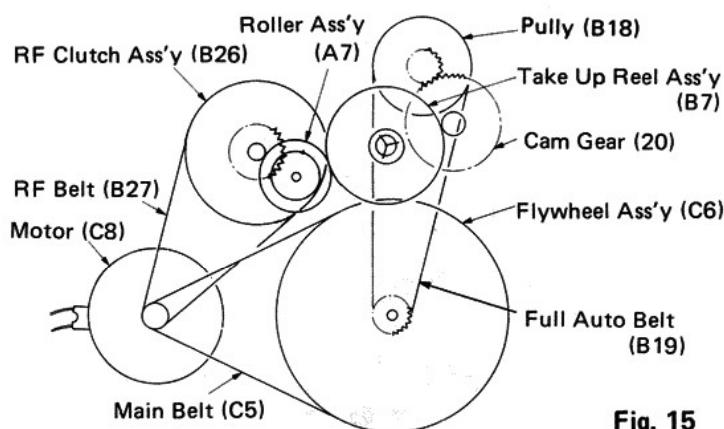

Fig. 15
- 1 As shown in Fig. 15, the pulley (B18) is coupled with the flywheel through the full auto belt (B19). Therefore, the pulley (B18) and the cam gear (20) always keep revolving while the motor is running.